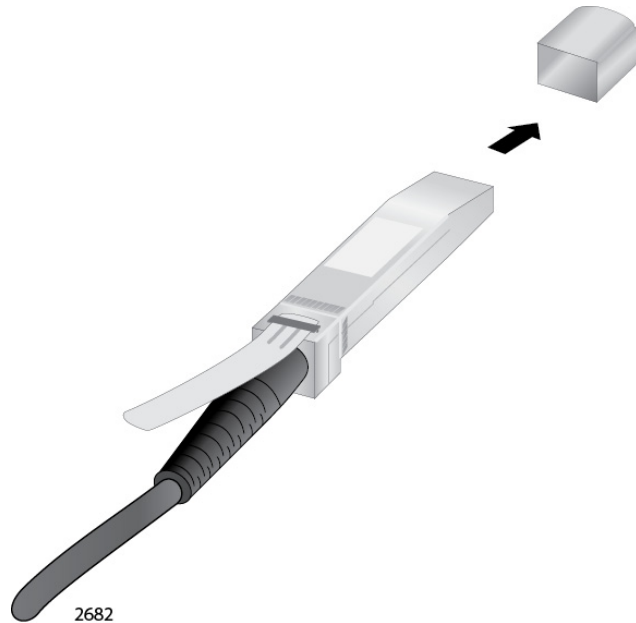

Figure 57. Removing the Dust Cover from a TwinAx Cable
3. Remove the dust cap from one end of the cable, as shown in Figure 57.